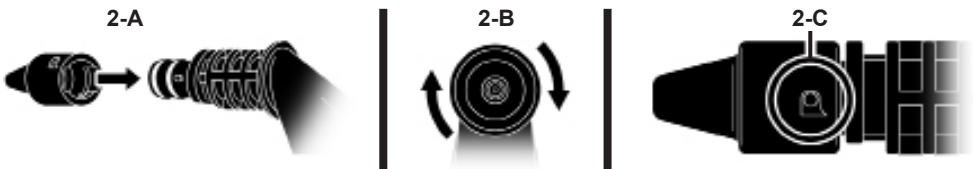

FIGURE 2
NOTE: Nozzle Tip shown in FIGURE 2 as example.
1. Align Brush or Nozzle Tip with Jet Nozzle as shown (FIGURE 2-A). Make sure that two side pegs on tip of Jet Nozzle align with grooves inside of Brush or Nozzle Tip.
2. Slide Brush or Nozzle Tip onto Jet Nozzle, then rotate clockwise (when viewed from front) to lock in place (FIGURE 2-B). Side pegs on Jet Nozzle will be visible through small holes in Brush or Nozzle Tip (FIGURE 2-C).